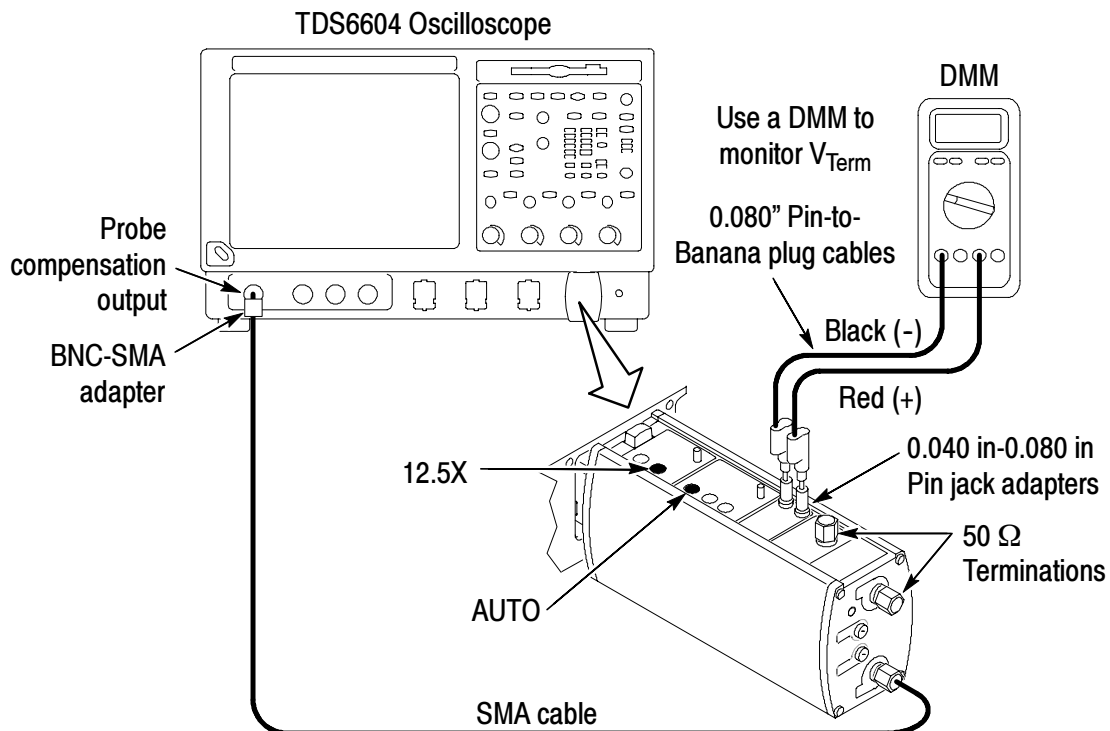

Figure 4: Signal check setup
Next, perform the Signal and Termination Voltage Monitor Check. This test uses the PROBE COMPENSATION output on the front panel of the oscilloscope to verify that the probe input circuits function. The termination voltage monitor output is also checked, using a DMM. Figure 4 on page 17 illustrates a typical setup.
4. Set the DMM to measure DC voltage and connect it to the Vterm monitor jacks using the 0.040 in-to-0.080 in adapters and the 0.080 in pin-to-banana plug test leads included with the probe. The test setup is shown in Figure 4.